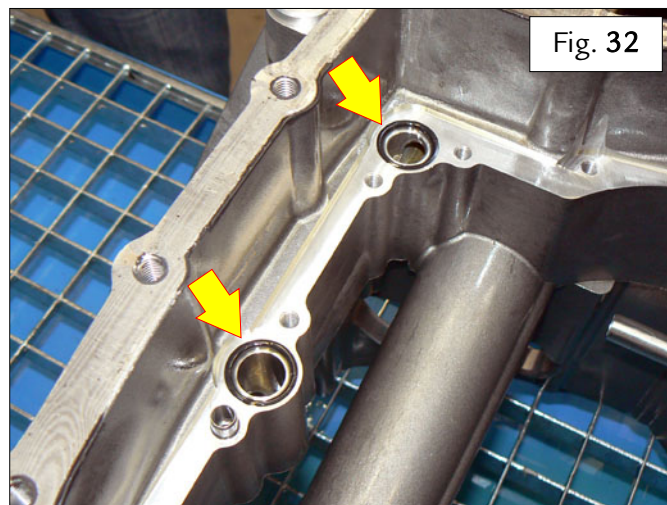

Fig. 32
- Remove the two O-rings from the differential housing and obstruct the holes with suitable plugs – Fig. 32.